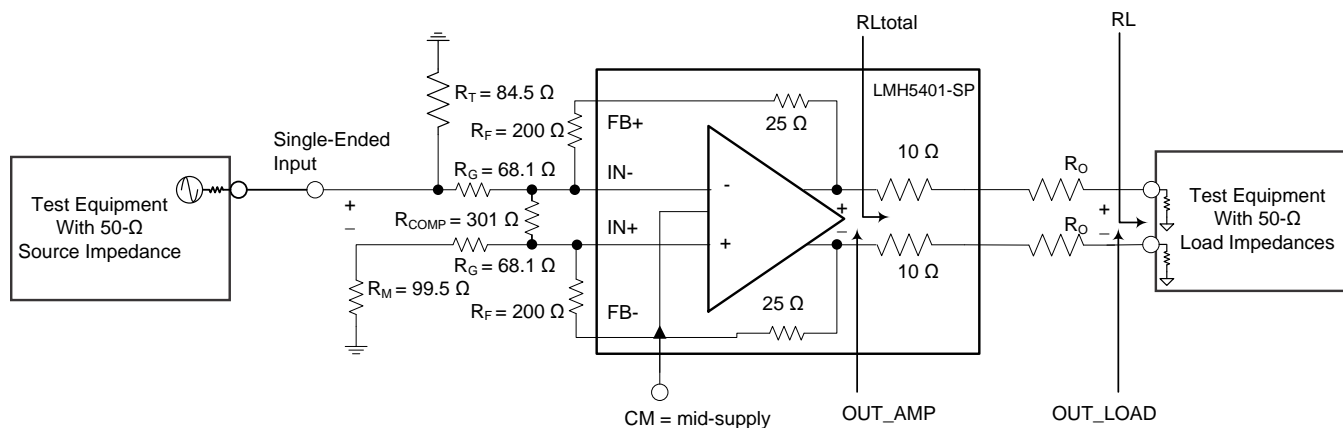
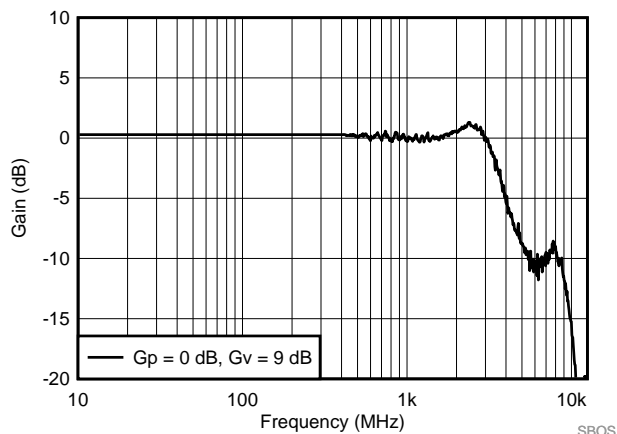

Figure 61. Noise Gain Compensation for Stability at $G_p = 0$ dB
Figure 62. SE-DE Small Signal Frequency Response for Low Gain
Two types of gain are associated with amplifiers: noise gain (NG) and signal gain. Noise gain determines the stability of an amplifier. The noise gain is the inverse of the voltage divider from the outputs back to the differential inputs. This gain is calculated by $NG = (R_F / R_{IN}) + 1$. For the LMH5401-SP, $NG > 4$ creates a stable circuit independent on how the signal gain is set. In Figure 61, for optimal performance choose R_F within the values noted in this document (see the Parameter Measurement Information section for further information). Using too large of a resistance in the feedback path adds noise and can possibly have a negative affect on bandwidth, depending on the parasitic capacitance of the board; too low of a resistance can load the output, thus affecting distortion performance. When low signal gain stability is needed, the noise gain can be altered with the addition of a resistor, R_{comp} . By manipulating the noise gain with this addition, the amplifier can be stabilized at lower signal gains. In Figure 61, R_S and R_{comp} in parallel combination also affects the noise gain of the amplifier. R_G and R_F are the main gain-setting resistors and the addition of R_{comp} adjusts the noise gain for stability. Much of this stability can be simulated using the LMH5401-SP TINA model, depending on the amplifier configuration. The example in Figure 61 uses the LMH5401-SP, a signal gain of 2.8 V/V, and a noise gain of 4.75 V/V resulting in the frequency response shown in Figure 62.